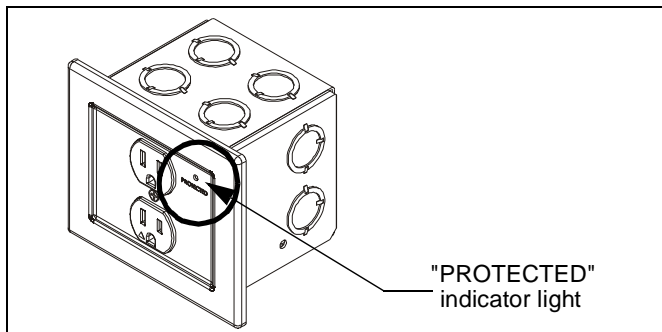

Figure 13
**NOTE:** The "PROTECTED" light indicates that the surge protection circuitry is active and operational. (See Figure 13)